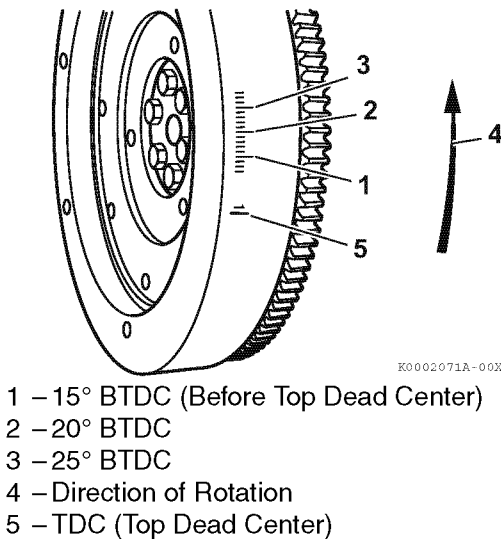

Figure 7-19
7. Typical flywheel markings are as shown in **Figure 7-19**.
8. The flywheel shown in **Figure 7-19** is for a Yanmar “Standard Specification” IDI engine. Flywheels used on some “OEM Specific” IDI engines may be marked differently. You should contact that specific OEM for information on the identification of the timing marks.
Note: The TDC (Top Dead Center) mark can be identified by the cylinder numbers stamped near the TDC mark (**Figure 7-19, (5)**) on the flywheel.